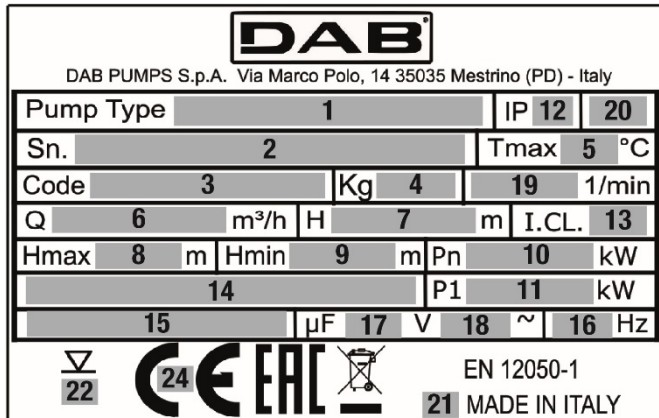

Fig. 1 Nameplate
**For mobile installations we recommend the use of a support disc kit (Fig 1) to prevent the pump from sinking into the ground during operation due to suction. In any case, create a support surface that is as solid as possible.**